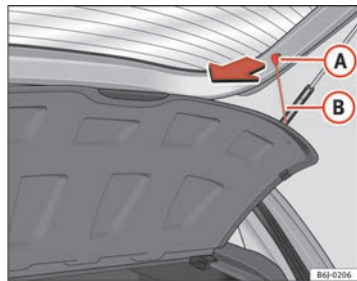

Fig. 93 Rear shelf
- Unhook the loops ⇒ fig. 93 **B** from housings **A**